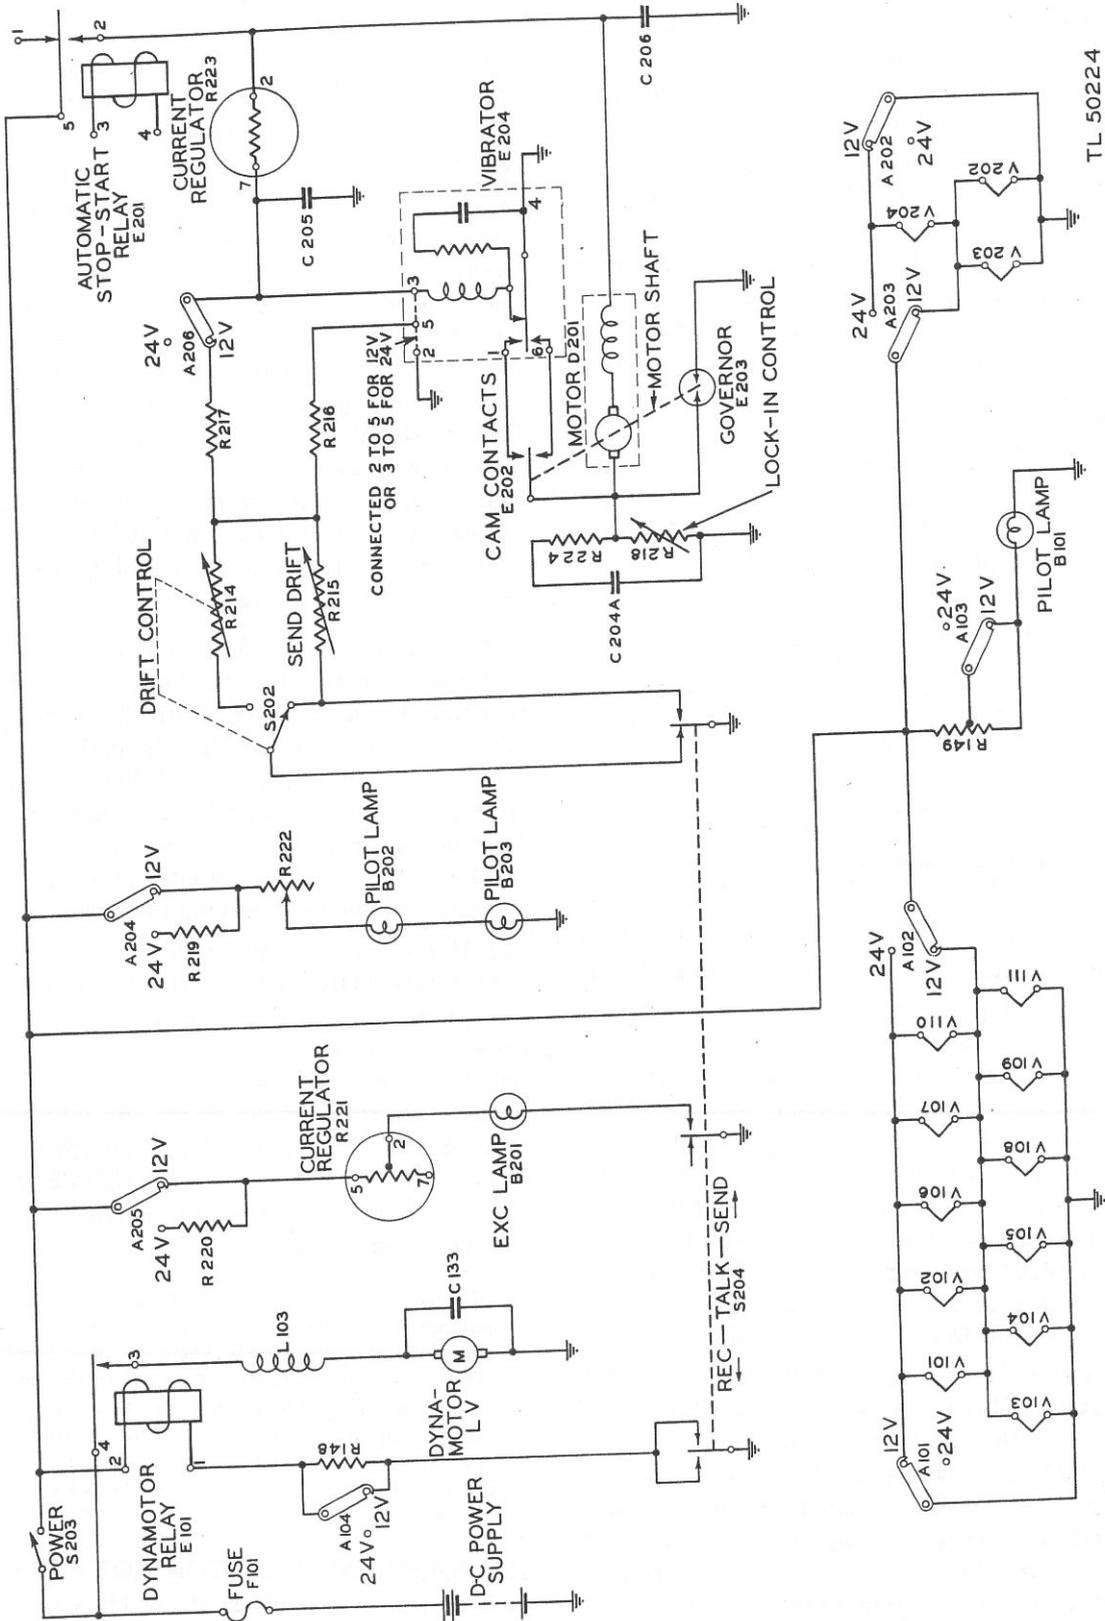
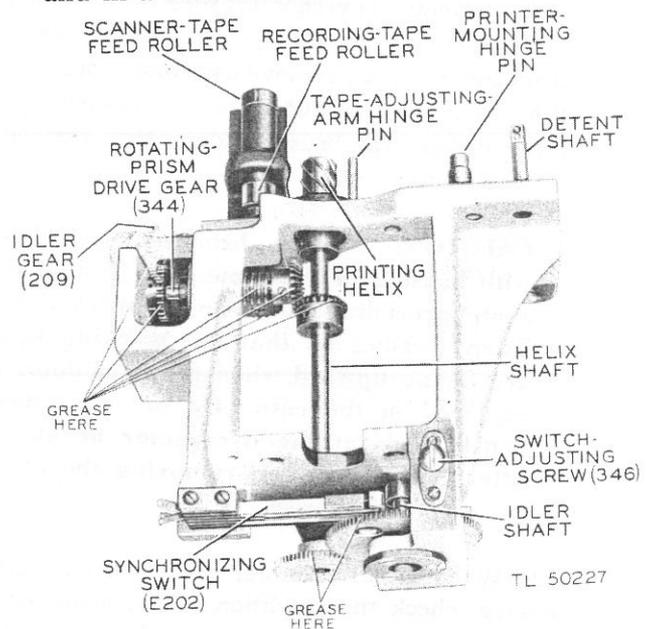
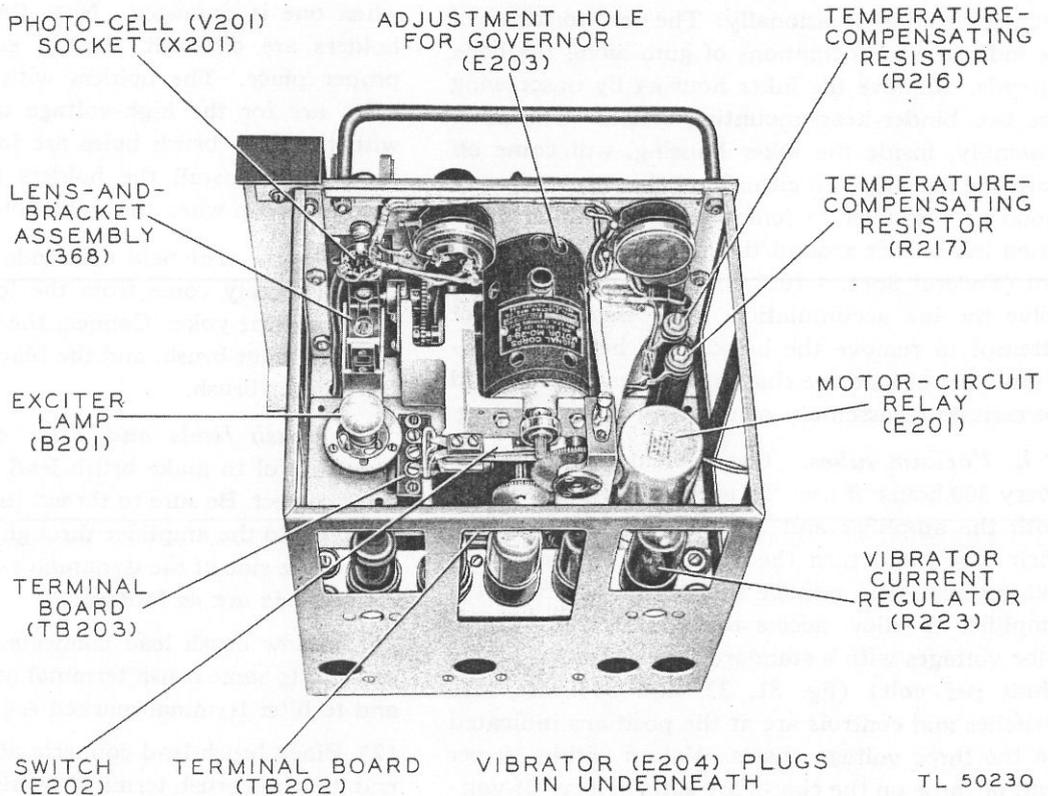

Figure 24—Low-voltage circuit, schematic diagram
Figure 27—Gear-housing assembly
Figure 30—Recorder-scanner top (open view)
the power circuit to the recorder-scanner drive motor (D201) and vibrator (E204), putting them in action (fig. 24).
b. Control of the motor speed depends primarily upon the action of the cam switch (E202) and the vibrator (E204). D-C voltage is applied to the motor (D201) and the vibrator (E204) through the contacts of a relay (E201) (fig. 24), the current through the vibrator being kept constant by a current regulator tube (R223). The current through the motor goes to ground, partially through the lock-in control (R224, C204A and R218) and partially through the cam-switch-and-vibrator circuit. The motor governor, E203, also functions in this circuit.
i. Resistors R216 and R217 (fig. 30), in the drift-control circuit (fig. 24), are special copper-wire-wound units with temperature coefficients designed to nullify the effects of the heating up of the equipment during normal operation. As the vibrator warms up, its frequency tends to change. The resistors (R216 and R217), warming up at the same time as the vibrator, change their resistance enough to cause an automatic drift-control effect that tends to hold the vibrator frequency constant.
23. LOW-VOLTAGE CIRCUIT. The low-voltage circuit (fig. 24) is for the most part self-explanatory. The battery or rectifier supplies a d-c voltage for tube filaments, for pilot lamps, for the optical-system exciter lamp, and for operating the vibrator, the drive motor, and the dynamotor. Connected in series with the exciter lamp (B201) is a ballast tube (R221) which regulates current flow through the lamp. For proper operation of the photo-cell (V201) circuit, the current through the exciter lamp (B201), and hence the brightness of this lamp, must be kept reasonably constant.
(1) To lubricate gear teeth, remove the recorder-scanner from its case by turning the two slotted bolts at the back of the unit counterclockwise and pulling the chassis out at the front. Clean all gear faces with a lint-free cloth moistened with carbon tetrachloride to remove accumulated grease and dirt. After cleaning, apply a small amount of gear lubricant to all gear teeth (fig. 27). For temperatures above 0° F, use Grease, General Purpose No. 2, U S Army Spec 2-108. For temperatures between 67° below zero and 0° F, use Grease, Lubricating Special, U S Army Spec AXS-637.
(2) To oil the printer bearings, remove the detent knob and printer cover and add a few drops of
(3) Green brush lead connects at dynamotor output end to brush terminal near outside edge of dynamotor case, and to filter terminal marked No. 2.
(4) Red brush lead connects at dynamotor output end to brush terminal near filter unit, and to filter terminal No. 1.
(5) Red lead from amplifier connects to filter terminal marked B+.
(6) Brown lead from amplifier connects to filter terminal marked A+.
(7) Black lead from amplifier connects to filter terminal marked GRD.
(8) Jumper lead connects between filter terminals marked GRD and B—.
b. If the drive-motor leads have been disconnected from their terminal board (marked TB203 MOTOR), reconnect the leads as follows: (See fig. 30.)
- (1) White lead (No. 1) to terminal No. 1.
- (2) Green lead (No. 2) to terminal No. 2.
- (3) Black lead (No. 3) to terminal No. 3.
30. GEAR-ASSEMBLY SERVICING. *a.* To replace parts of the gear-housing assembly, it may be necessary to remove the entire assembly from the recorder-scanner front panel. Proceed as follows: (See fig. 27 and 29.)
(9) The gear housing is held in place by two standard screws and a square-headed bolt (215). Remove the nuts and washers from these bolts, and then remove the gear housing from the recorder-scanner. Be careful not to damage any parts of the unit.
31. CONTACT-POINT SERVICING. If contact points of the drive-motor governor, the cam-operated synchronizing switch, or the vibrator become badly pitted after long operation, replacements may be necessary. The drive-motor governor (E203), the cam switch (E202), and the vibrator (E204) each must be replaced as a unit (fig. 30). Adjust points and the drift control after replacements are made (par. 37 and 38).
32. OPTICAL-SYSTEM SERVICING. If it becomes necessary to remove the optical system for servicing, first remove the recorder tape chute by loosening the clamp inside the tape-reel cover, and pulling out the chute. Then remove the prism-drive-gear front cover (held in place by two screws), and disconnect the wires to the photo-cell and the exciter lamp (fig. 30). Remove the exciter lamp and the two fillister-head screws holding the optical assembly to the front panel of the recorder-scanner, and carefully remove the assembly through the front of the panel. Replace items requiring special handling as follows:
a. Remove the motor-starting relay (E201) from its socket (fig. 30).